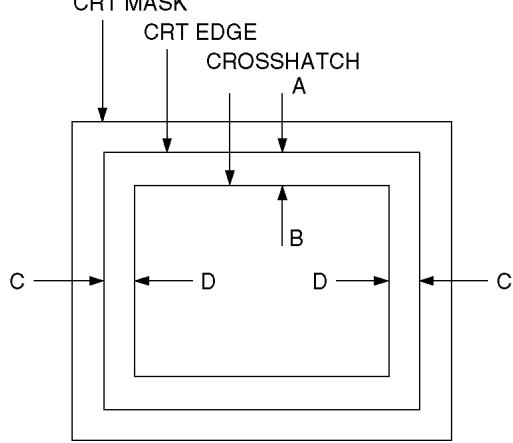

Fig. 8
1. Adjust V-AMP (VGA) so that A=B in the Fig. 8.
1. Adjust H-AMP (VGA) so that C=D in the Fig. 8.